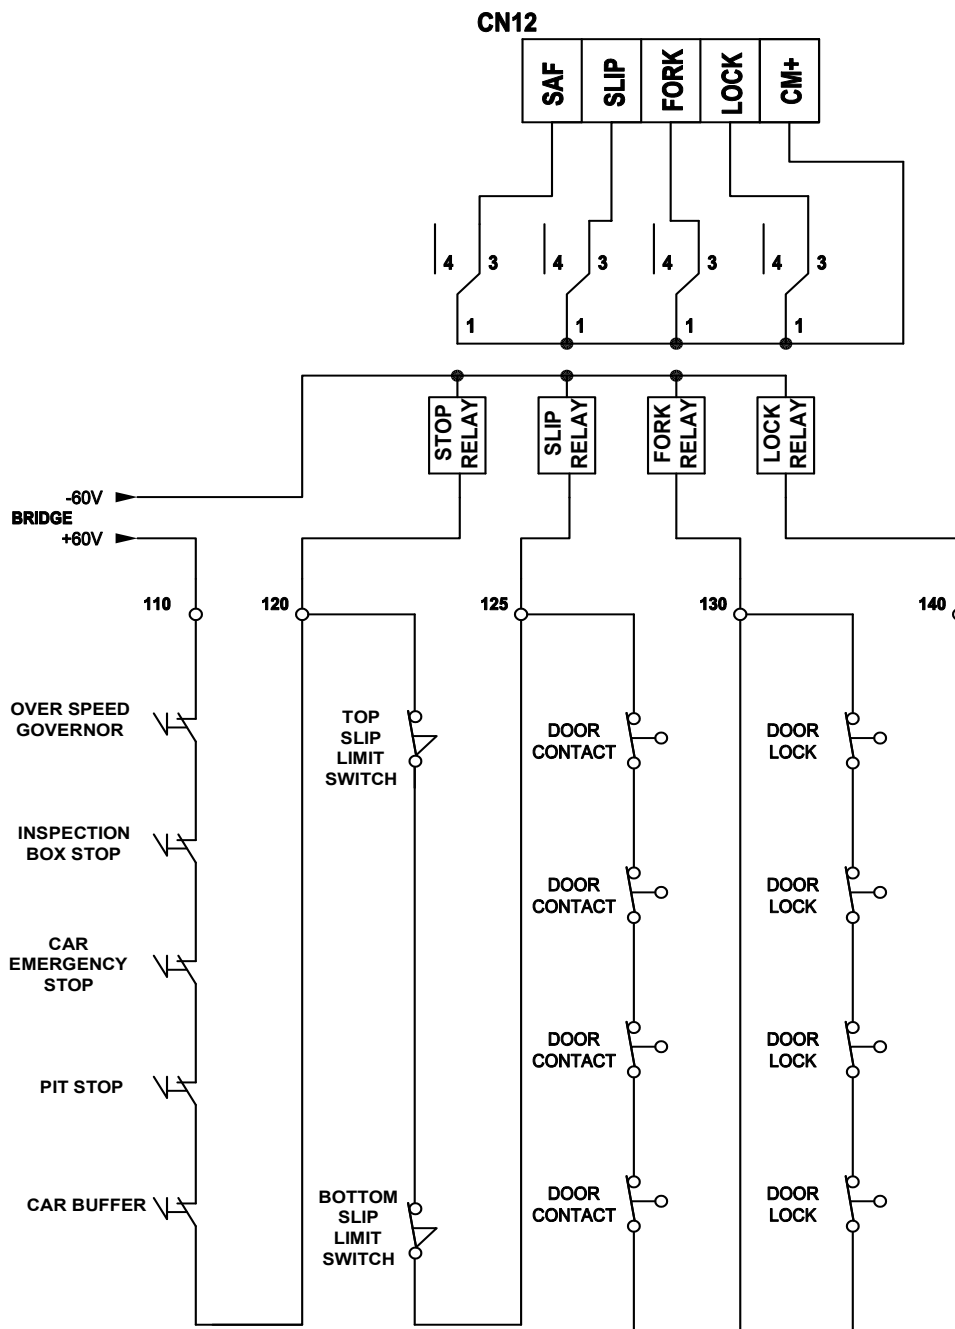

Figure 17.0 - Safety Circuit Connections
The terminals of the Safety Circuits are connected as illustrated in Figure 17.0.
- Figure 17.0 represents a guide for connecting Safety Circuits to the shaft terminals (CN12) on the XC-8 series board.
- The Safety Circuits are operated with 60V DC using an external relay as illustrated in Figure 17.0.
- Figure 17.0 represents the condition when all safety circuits are closed, where the car can operate normally.